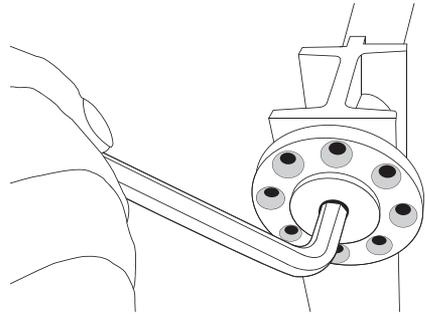

FIGURE 9
2. Tighten both adjustment plates by 1 or 2 holes (Fig. 9).